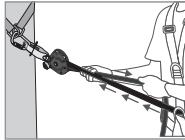
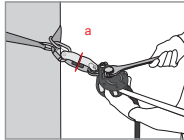

Fig. 3
Fig. 4
Once the lifeline is installed, a pre-adjustment of the tension must be made by pulling manually on the rope (knot end side – Fig. 3). Automatically, the cam (8) and the cam lever (4) must come into contact with the rope. Close the cam lever (4), then, using an appropriate wrench, apply tension on the tension adjustment bolt (1) until the tension indicator washer (a) placed on the tension indicator (2) turns freely (Fig. 4). Once this washer moves freely, STOP TIGHTENING! This corresponds to a pre-tensioning on the line of approximately 0.5 kN. During use, regularly check this tension (rotation of the tension indicator washer) and adjust if necessary, as explained above.